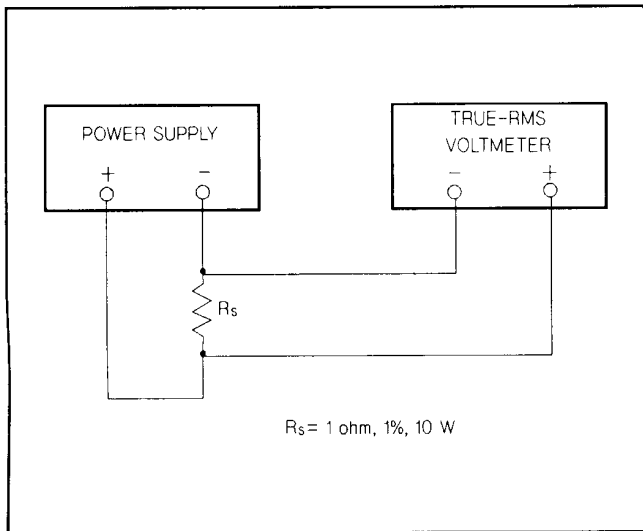

Figure A-6. RMS Measurement Test setup
- a. Connect the test equipment as shown in Figure A-6.
- a. Connect the test equipment as shown in Figure A-6, but replace the RMS voltmeter with oscilloscope.